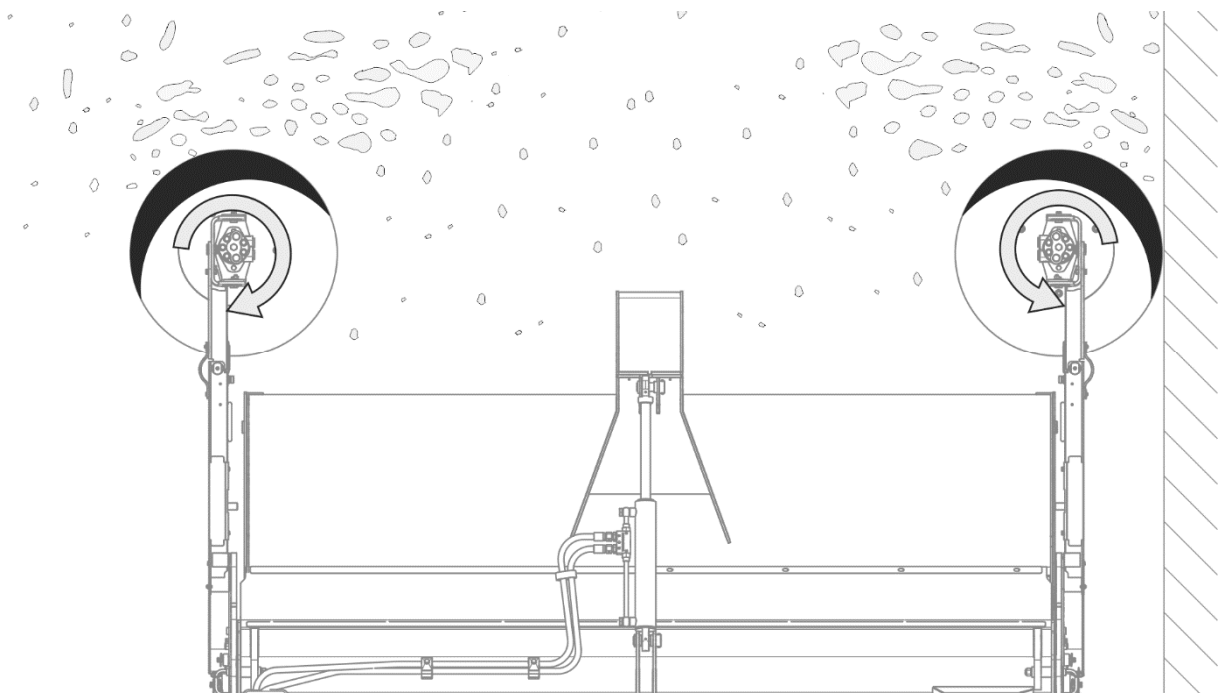
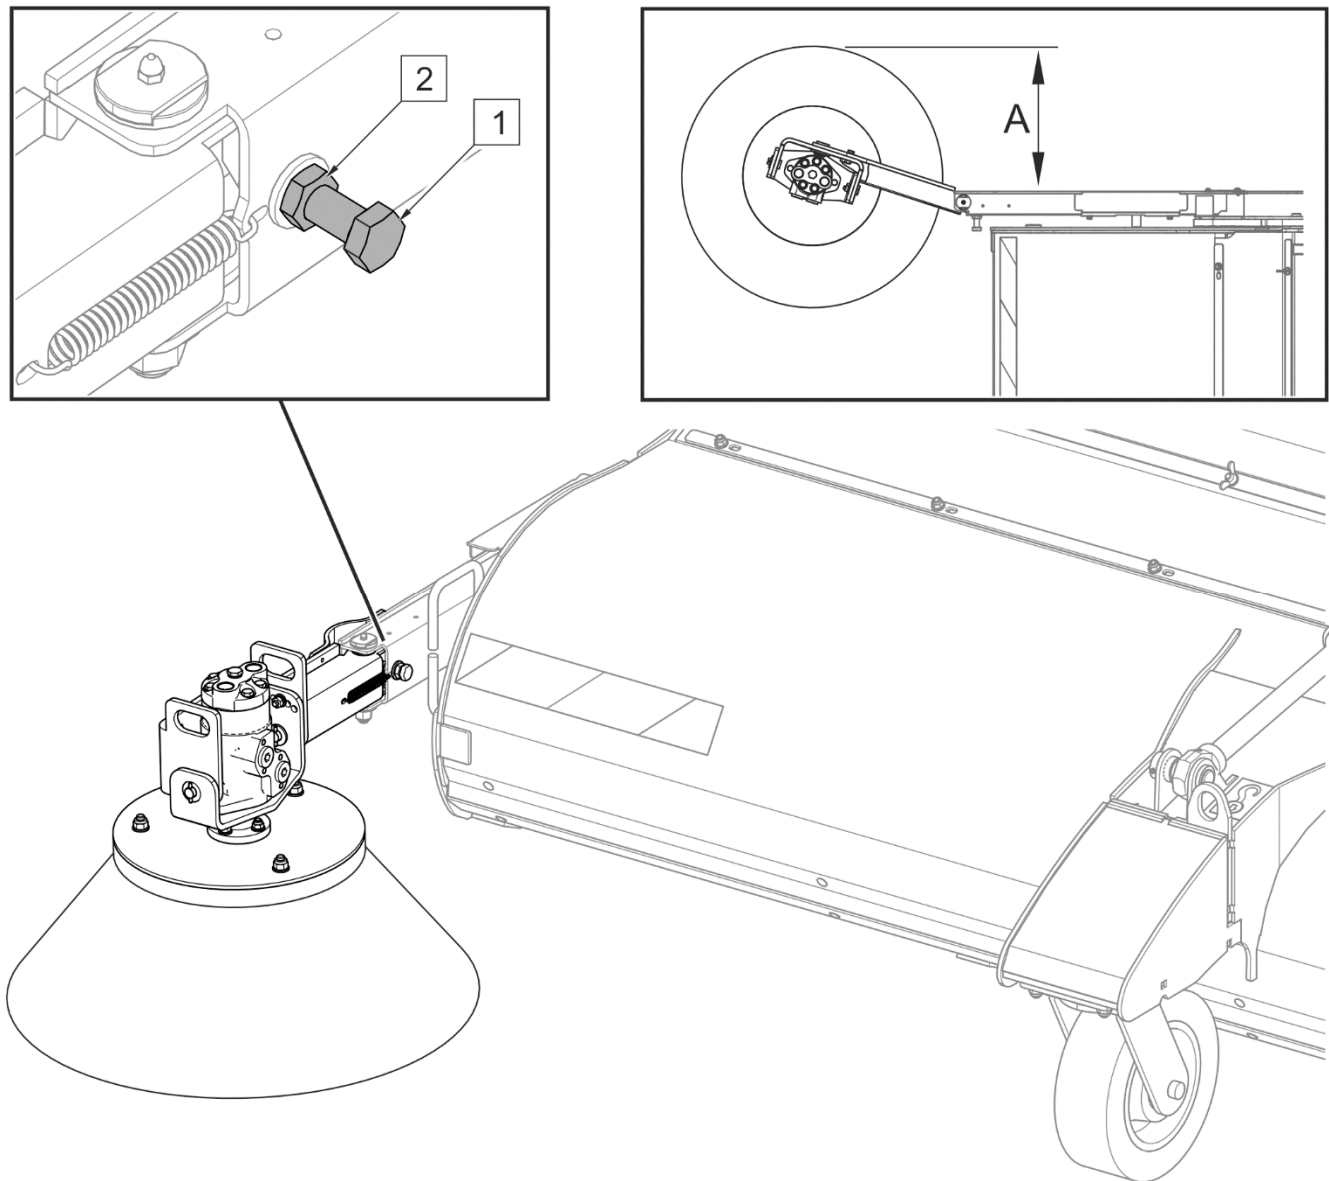

FIGURE 5.2 Correct setting of the side brush
FIGURE 5.6 Adjustment of side tilt
Correctly positioned side brush head should touch the surface only with a section of its circumference in such a manner as to ensure that waste is directed to the inside of the sweeper, in front of the roller brush. Shaded areas on diagram (FIGURE 5.2) indicate sections of correctly set brushes which touch the surface.
The following parameters affect the correct position of side brush (FIGURE 5.6 FIGURE 5.2):
- Adjustment of side tilt (FIGURE 5.6).
(1) - limiter bolt; (2) - counter nut; (A) = 320 mm
If the sweeper is raised, the side brush arm is folded to the inside of the machine by the tensioning spring. During machine operation, the side brush is tilted to the outside (FIGURE 5.6). Properly adjusted side brush should tilt beyond the outline of the machine to the distance of $A=320$ mm (for a new brush), measured from the brush side to the arm. Range of horizontal movement of the side brush is limited with bolt (1) secured with counter nut (2).